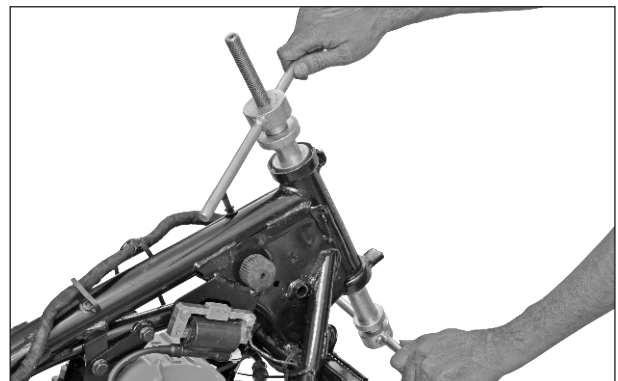

Fig. 6.76
- Assemble the cup bottom and cup top by using a special tool. (Fig. 6.76)